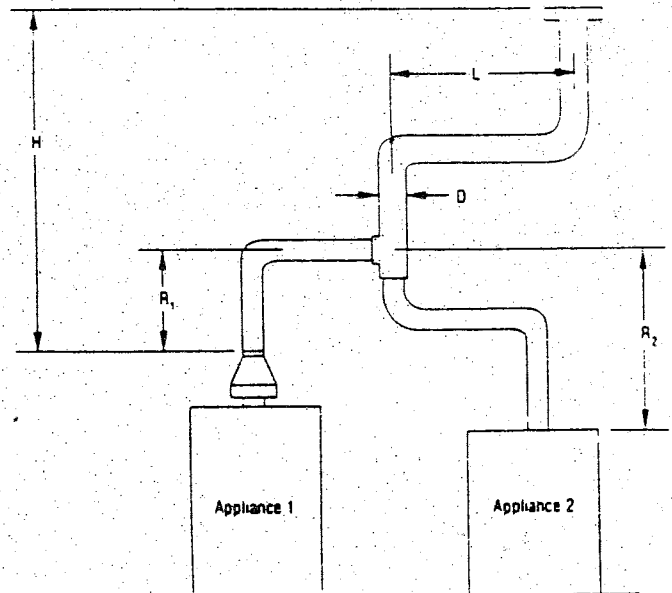

FIGURE 8
6. If the common vertical vent is offset as shown in Figure 8, the maximum common vent capacity listed in the common venting tables should be reduced by 20%, the equivalent of 2 (two) 90° elbows (0.80 x maximum common vent capacity). The horizontal length of the offset shall not exceed 1 1/2 feet for each inch of common vent diameter.